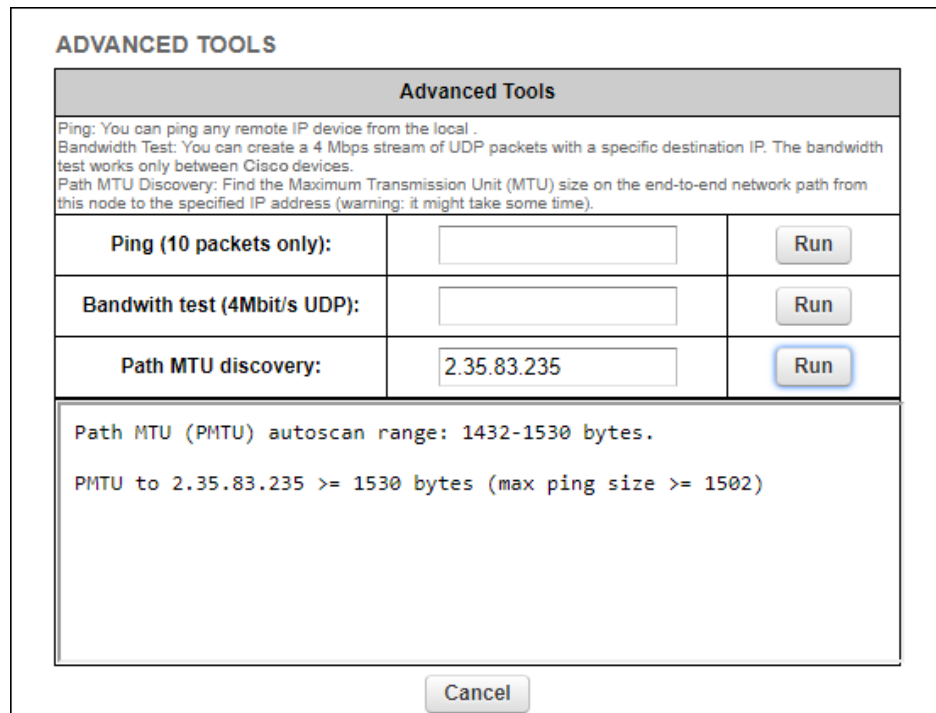

Figure 26. Advanced Tools window (Path MTU test tool)
2. Enter the IP address of the second unit in the **Path MTU discovery** field (Figure 26 (page 72)).